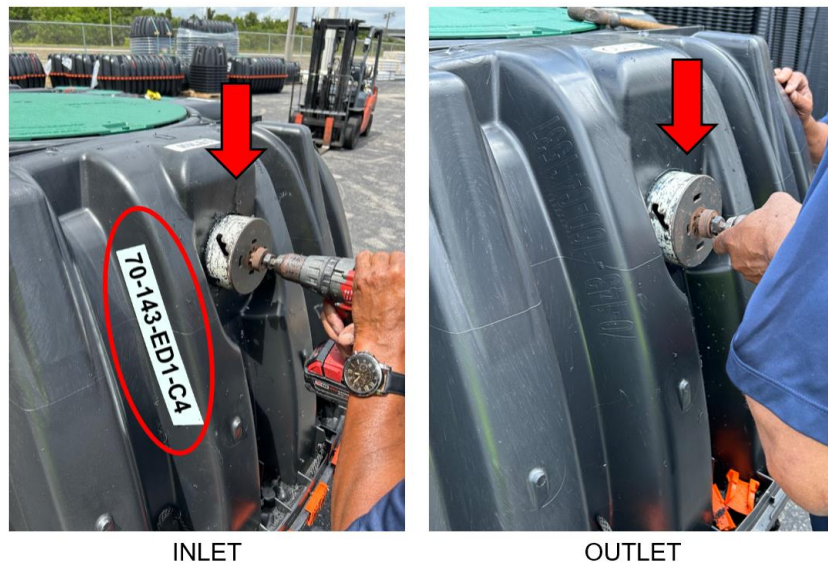

Figure 11: Drilling Inlet/Outlet and Ledger application
- Drill Florida inlet and outlet holes for a 2-inch difference between the inlet and outlet invert heights, with a 5” hole saw (Figure 11)
- Place the adhesive side of the label onto the tank, **positioning the label in the first corrugation to the left of the INLET, 6" from the top of the tank** as shown in Figure 11 [INLET].